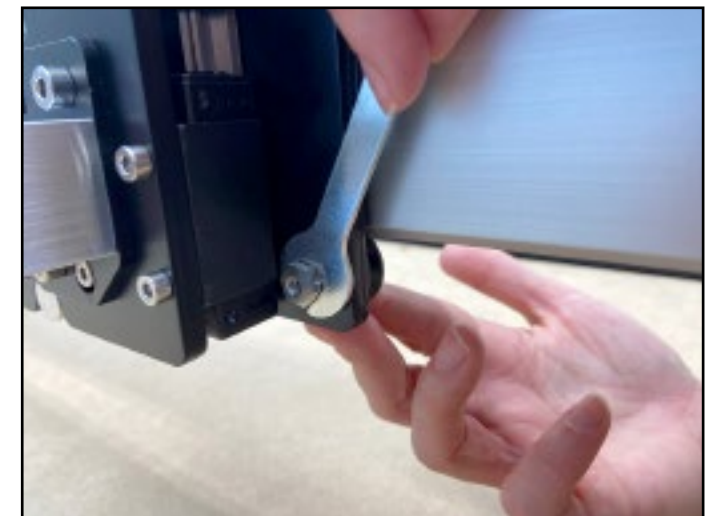

Figure 4-10
1. Use the 10mm wrench to turn the two (2) eccentric nuts on each of the three carriages (Z-Plus, Y1, and Y2) clockwise until the V-wheels engage with the V-rails. See **Figure 4-10**.